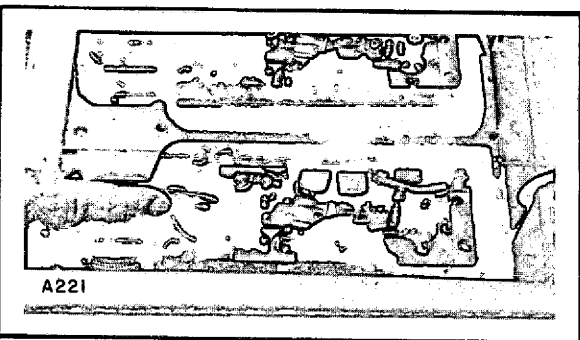

Fig. 3-5. Lock Lever
- e. Move the locking lever to the lock position, and close the access cover. (See figure 3-5.)